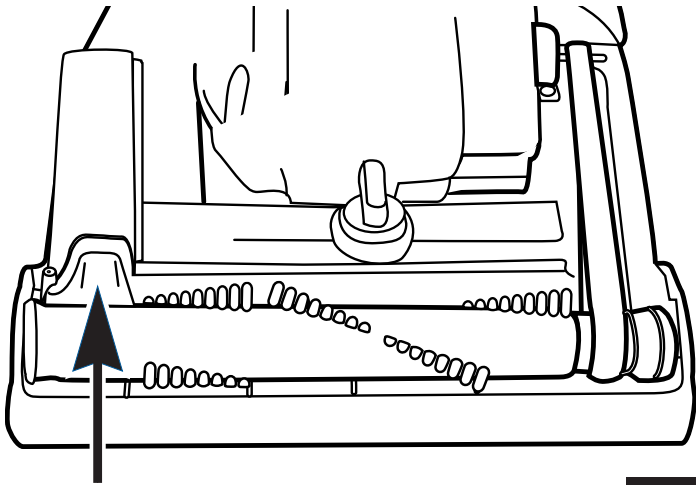

FIG. 27
- Step 3:** Remove the hood from the cleaner and check for a blockage in the brushroll area (FIG. 27). Make sure the hose inlet is clear. **If no blockage is found, continue to step 4.** After the blockage is found and cleared, replace the hood on the cleaner.